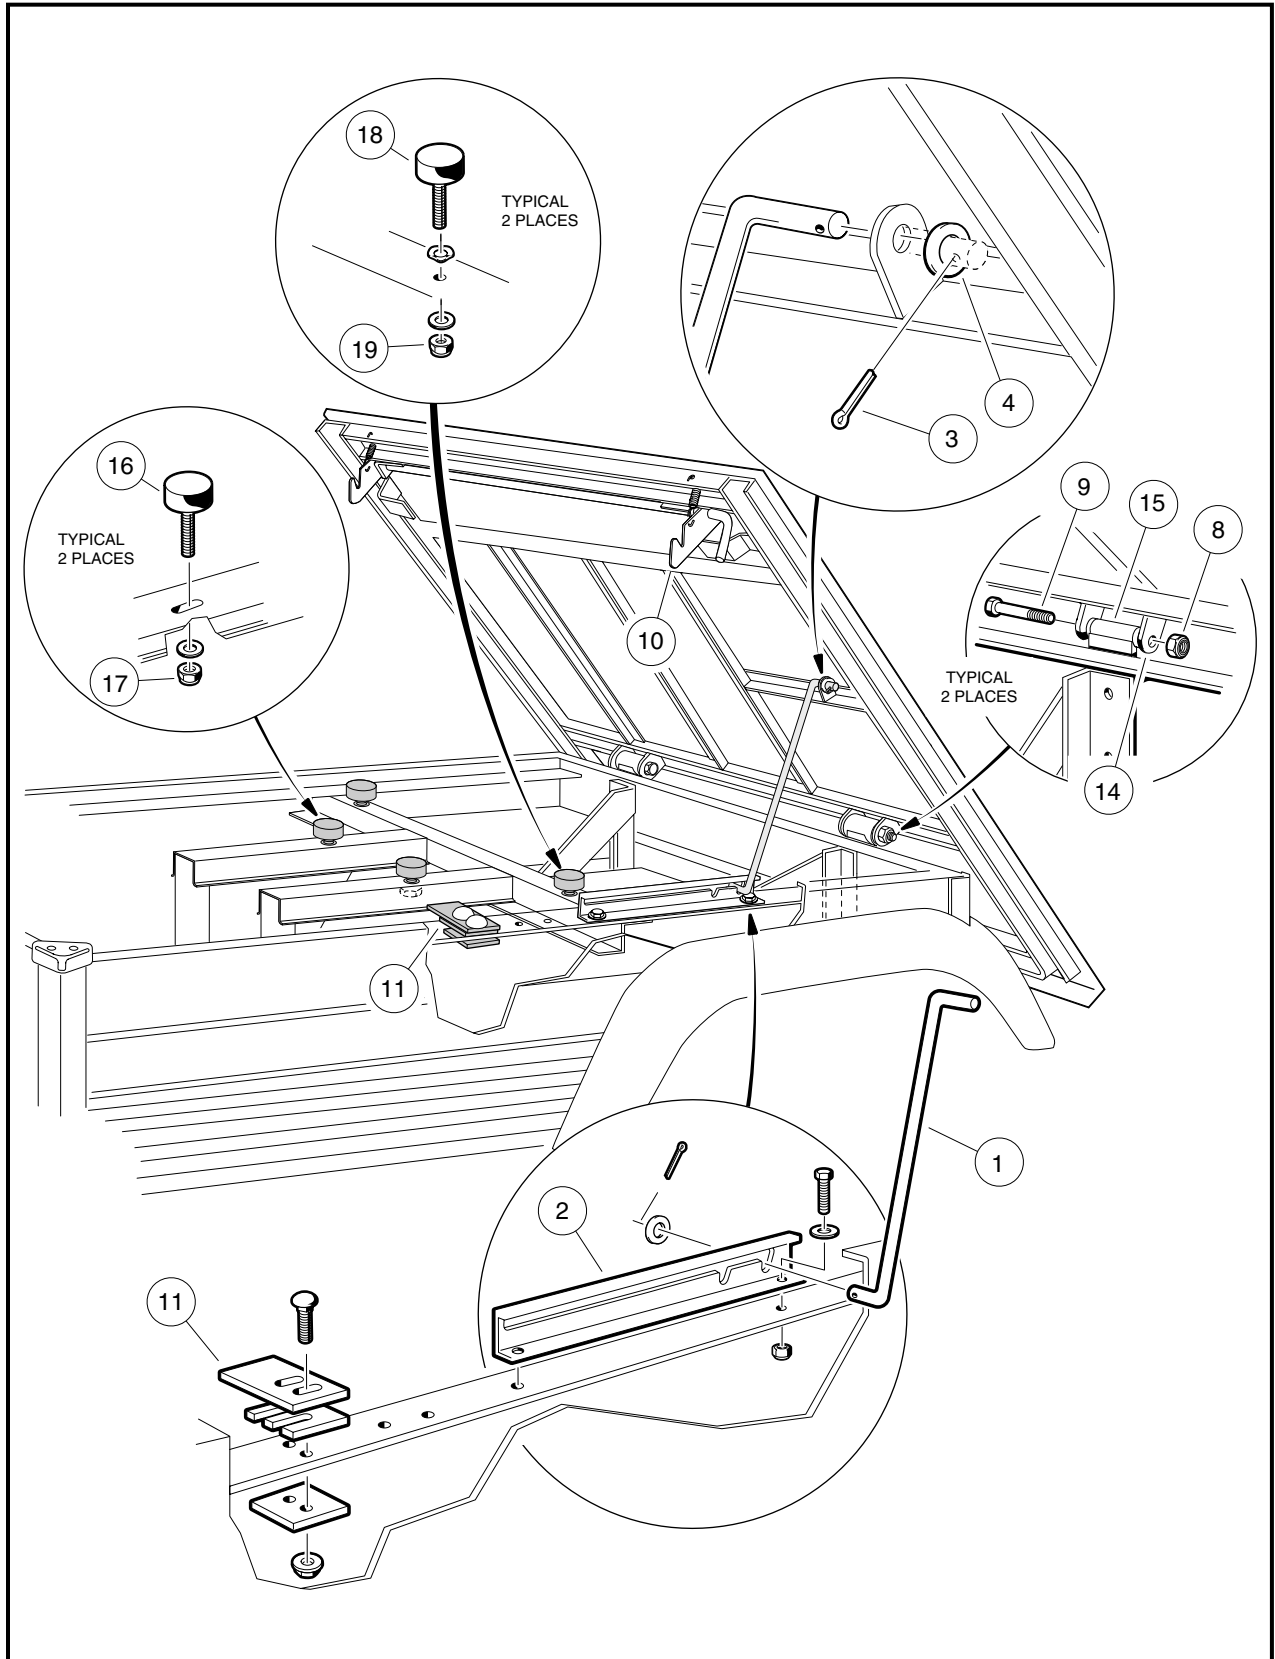

Figure 4-4 Tilt Bed
1. Raise bed and ensure that the prop rod (1) is secured in the prop rod track (2). Hold bed securely in an upright position. Remove cotter pin (3) and flat washer (4) from top end of prop rod where prop rod attaches to bed. Remove prop rod (1) from bed and place prop rod between prop rod track (2) and rear body panel. Lower bed onto vehicle frame **(Figure 4-4, Page 4-13).**
2. Remove two 3/8-16 nylon lock nuts (8) from left and right tilt bed hinge/bolt assemblies.
3. Apply slight upward pressure (by hand) on the rear of the bed to relieve pressure on the hinges, and remove the 3/8 x 3-3/8-inch hinge bolts (9) from the hinge assemblies.
4. Raise rear edge of bed approximately 6 inches (15.2 cm) and pull bed assembly toward rear of vehicle (approximately 3 inches)(7.6 cm) to release bed latch assembly (10) from latch plate (11).
1. Hold bed at a slight angle (front of bed lower than rear of bed) to vehicle and place front edge of bed onto vehicle frame. Bed latches (10) should engage with latch plates (11) (**Figure 4-4, Page 4-13**).
2. Lower rear edge of bed onto vehicle and align frame hinge brackets (14) with bed hinge brackets (15).
3. Start the 3/8-16 x 3-3/8 bolts (9) into left and right hinge assemblies. (It may be necessary to use an alignment tool to align holes in hinge bracket with steel bushing in hinge assembly) (**Figure 4-4, Page 4-13**).
5. Install a 3/8-16 nylon lock nut (8) on each bolt (9) and tighten to 15 ft-lb (21 N·m) (**Figure 4-4, Page 4-13**).
6. Lift bed from bed latch and with prop rod in a slot notch, place prop rod (1) in bed mounting hole and install a 3/8-inch flat washer (4) and a new cotter pin (3) through hole in prop rod (**Figure 4-4, Page 4-13**).
1. Adjust the two front bumpers (16) by loosening the 1/4-20 nylon lock nuts (17) and positioning the bumper in the slot so that when the tilt bed is lowered, the bumpers are centered on the bed frame weldment at each position (**Figure 4-4, Page 4-13**).
2. Tighten the lock nuts (17) to 20 in-lb (2.3 N·m).
3. Adjust the two rear bumpers (18) by tightening or loosening the nuts (19) until a 1/8-inch gap between the bottom of the bumper head and the frame weldment is achieved. These bumpers are not to be tightened to the frame. There is a wave washer between the bumper and frame so that the bumper will "float." Weldments on the frame should rest on these two bumpers.